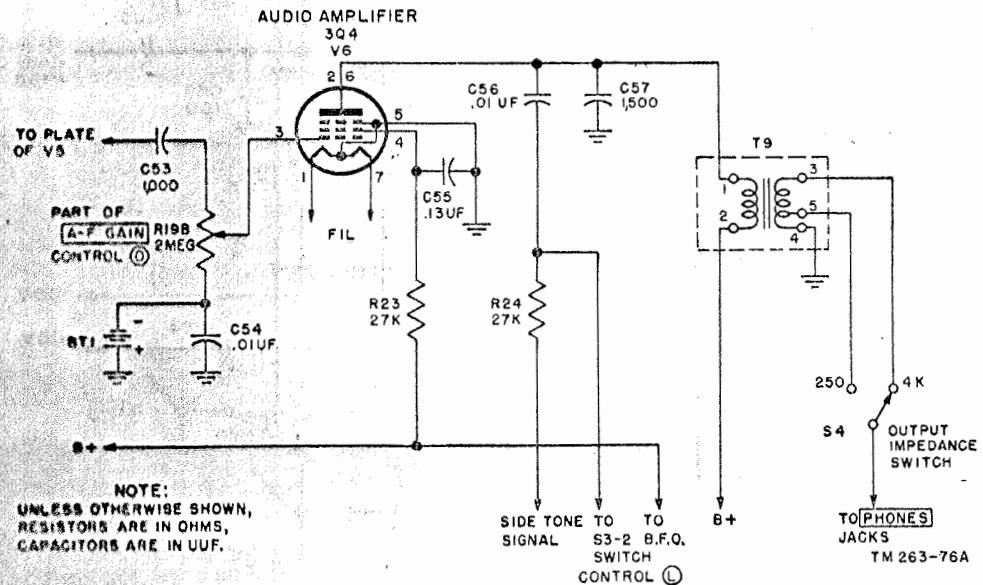

Figure 62. Second audio amplifier stage V6.
87. Second Audio Amplifier (fig. 62)